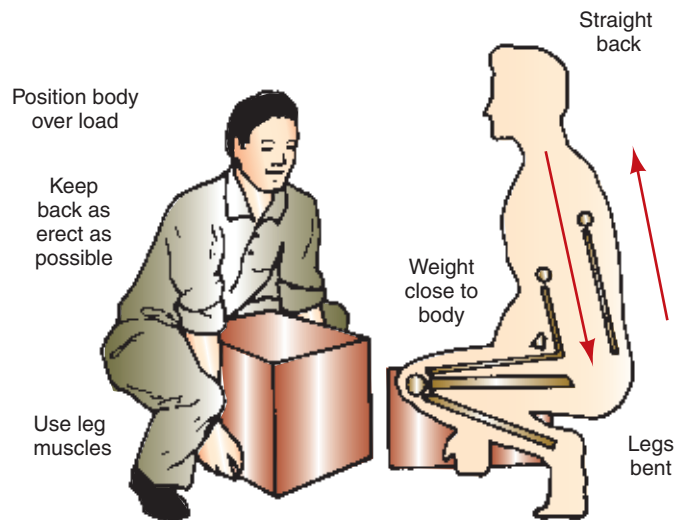

FIGURE 1-8 Keep your back straight and bend your legs to lift heavy objects safely.
3. Place your body close to the object as shown in Figure 1-8. Keep your legs close to the load and positioned for good balance.